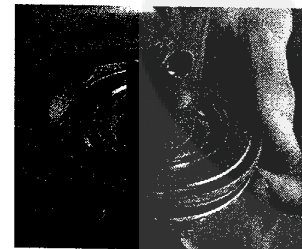
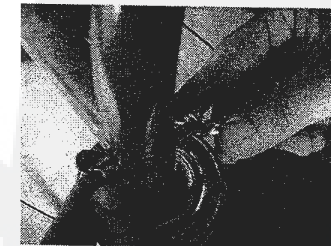
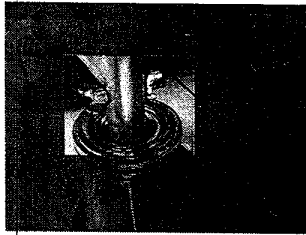
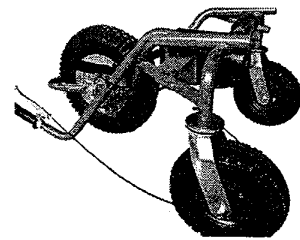

Figure 3
Figure 4
Figure 5
Figure 6
Step 2: Insert one of the wheels into one side of the base unit tube. Align the holes (**Figure 3**) so that the wing bolt can be put through (**Figure 4**). Fasten the bolt and nut and make sure they are tight enough (**Figure 5**). Your half-assembled wheelbarrow should now look like **Figure 6**.